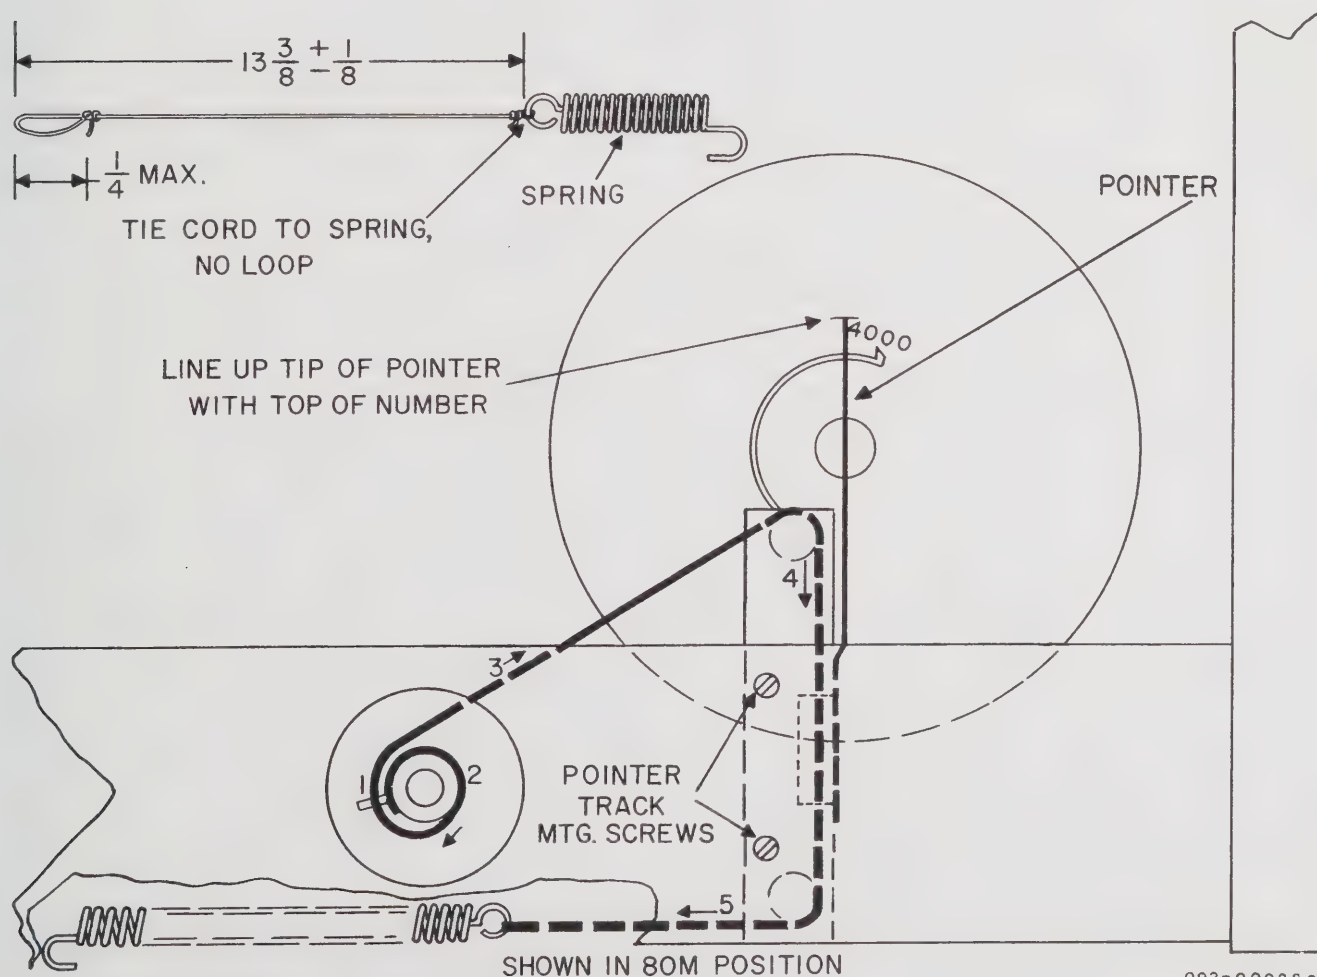

Figure 8. Dial Cord Restringing
3. Make up dial cord as shown in figure 8.
5. Place the loop at the end of dial cord over the pin (1) on the drum. Following the number sequence and arrows string the dial cord and anchor the spring in the chassis hole provided. Select the hole providing the required tension.